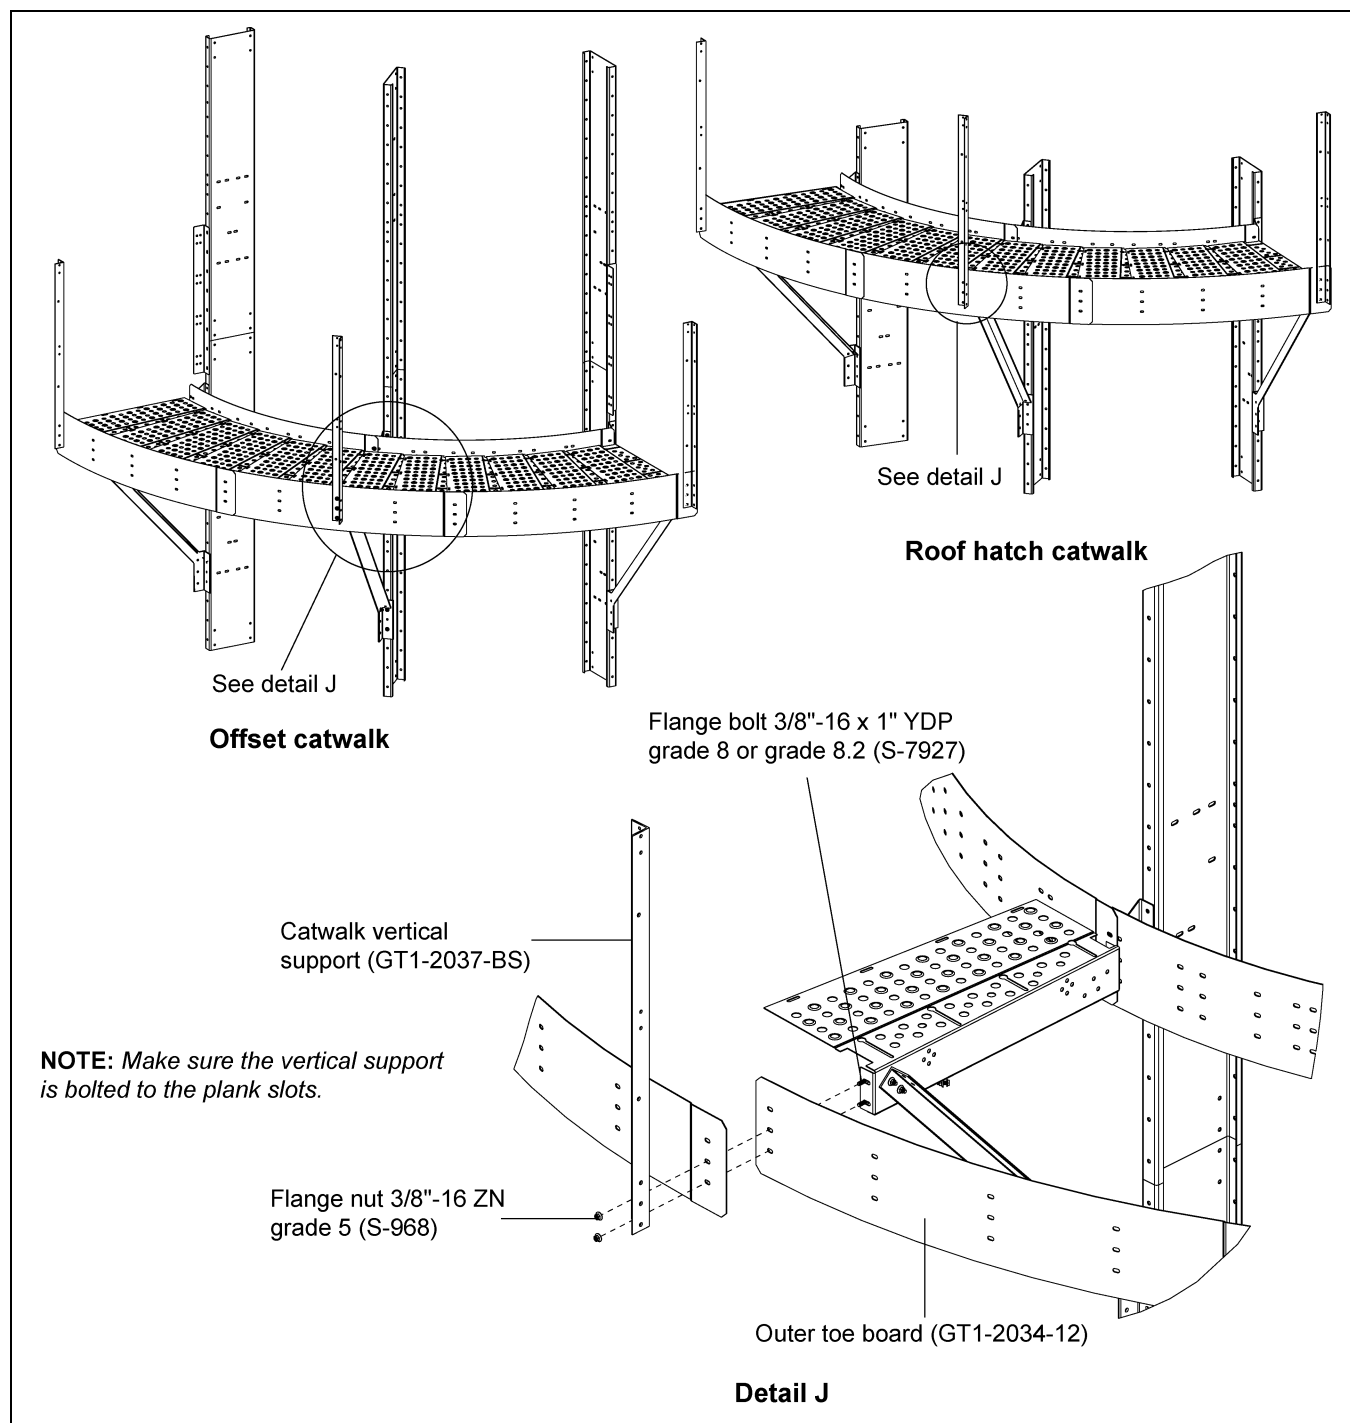

**Figure 6S** Knee Support (GT1-2039-BS) Installation for Offset and Roof Hatch Catwalks
1. Install the knee support (GT1-2039-BS) around the dryer between the catwalk support clips (GT1-2040-BS) and the planks (GT1-2033) using 3/8"-16 x 1" YDP grade 8 or grade 8.2 bolts (S-7927) and 3/8"-16 ZN grade 5 nuts (S-968). (See Figure 6S.)